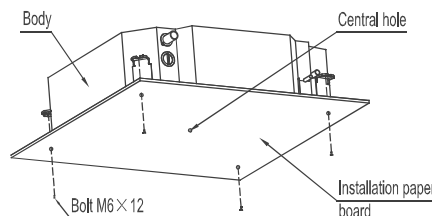

Fig. 5-6
- 2 After installing the body, please fasten the installation paper board onto the air conditioner with bolts(M6X12) to determine in advance the sizes and positions of the hole opening on ceiling.(Refer to Fig.5-6)